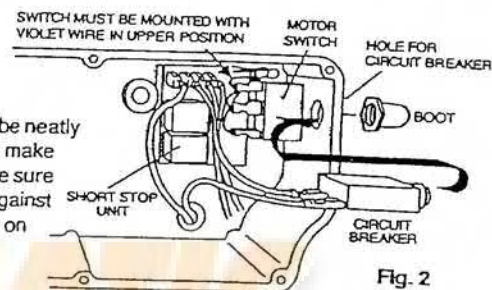

Fig. 2
6. Install the new motor switch and the circuit breaker, positioned as shown in Fig. 2. Make sure the switch is turned so the violet wire is in the upper position.